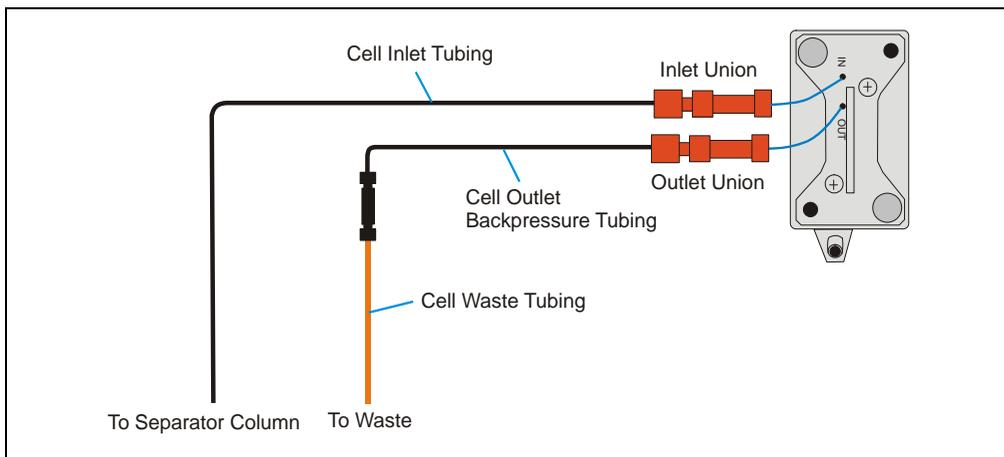

Figure B-5. Dionex VWD Flow Schematic
Figure B-5 is a schematic of the flow cell tubing connections.
2. While holding the inlet union in place (see Figure B-5), unscrew and remove the plug on the end of the union. Repeat to remove the plug from the outlet union.